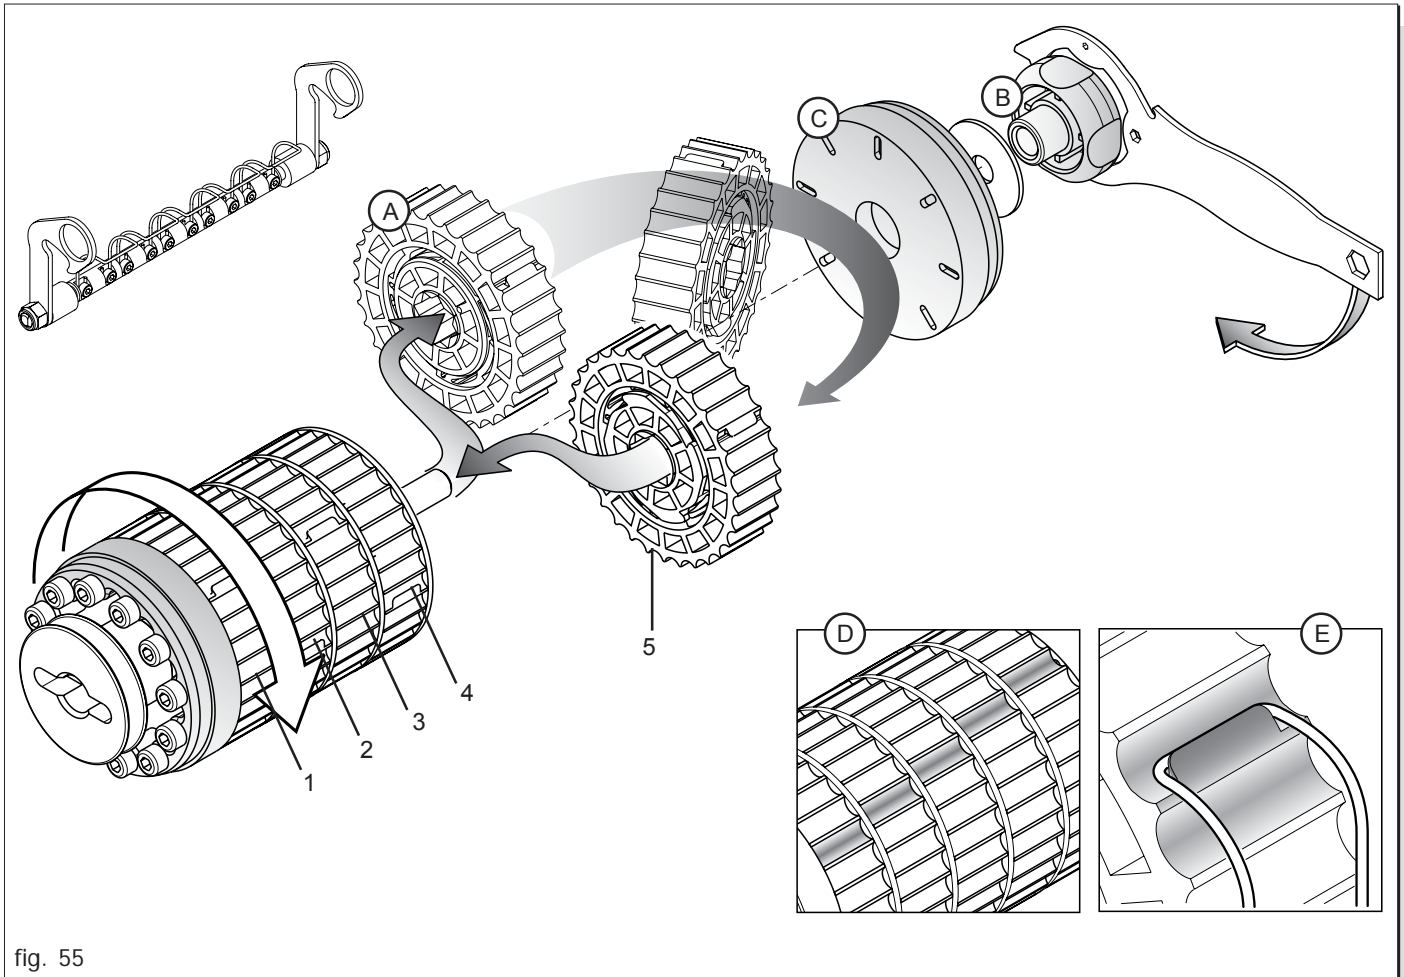

fig. 55
Considering that every section (A, Fig. 55) of the dosing roller distributes 20% of the product contained in roller itself, the number of operating sections can be reduced and the gearbox rotation speed increased to obtain more homogeneous distribution.
First, take the dosing roller off the machine. Then, unscrew the knob (B, Fig. 55) using the supplied wrench and remove the lock nut (C). Extract the section(s) to be disengaged and put them back in **their positions** (1-2-3-4-5, Fig. 55) turning them by 180°. When re-assembling the sections, make sure that during operation the dosing grooves of the active sections are staggered from one another (D, Fig. 55). This will give continuity to distribution.
Block the cleaning element in the operating position and make sure that the springs hook the previously overturned sections (E, Fig.55) preventing their rotation and consequently distribution.